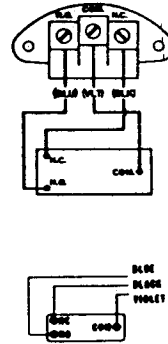

Figure 2. Wiring Diagram
**IMPORTANT:** Electrical ratings stated in literature and on nameplates must not be exceeded—overload on a switch can cause failure on the first cycle. Wire units according to national and local electrical codes. Maximum recommended wire size is 14 AWG. Remove cover and wire controller according to Figure 2.